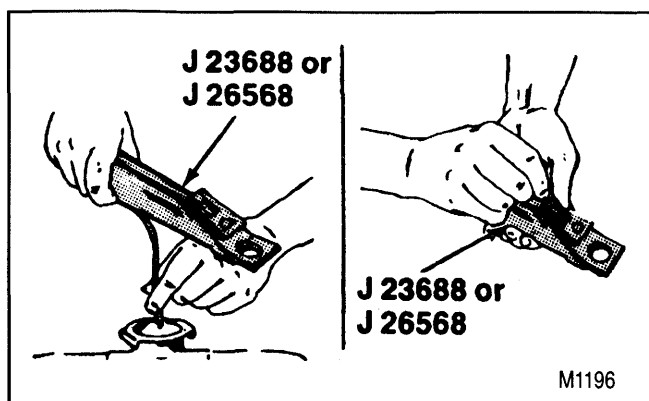

Figure 3—Collecting the Coolant
- 2. Insert the tip of the pump into the radiator filler neck (figure 3).